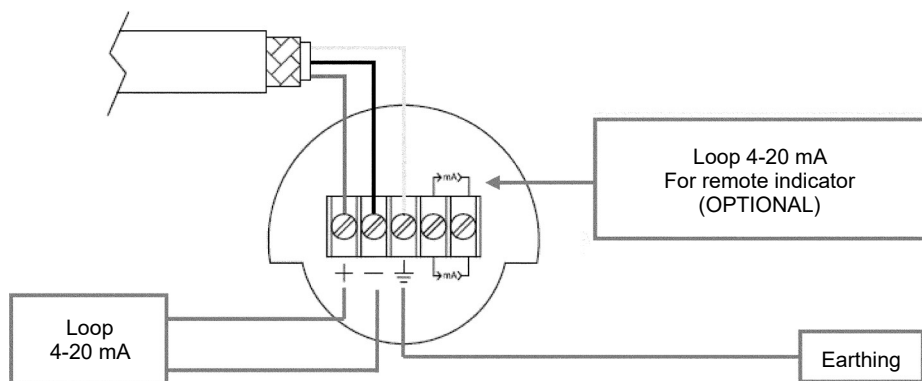

Fig. 6 - Electrical connection of the power cable to the terminal block
Under the rear cap is placed the terminal block reporting the electric polarity (Fig. 6). Insert the power supply cable into the enclosure through one of the two threaded openings. Transmitter is protected from accidental inversion of polarity. For a better use is recommended a twisted pair cable (22 AWG min). Avoid placing Transmitter near devices powered in AC or Switching. Connect ground-tap of the Transmitter to the local common earth (PE) as indicated in paragraph Earthing.
In the case where the plant devoid of earthing, it is necessary to connect the earth wire to the terminal block through the cable that carries the signal and the power supply (**Fig. 6**).